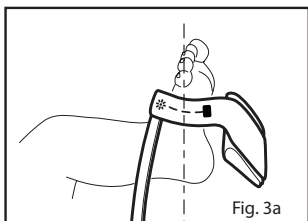

Fig. 3a
1. Refer to Fig. 3a. Direct the sensor cable toward the ankle (or wrist) so that it runs along the top of the foot (or hand). Apply the sensor around the foot (or hand) so that emitter and detector are aligned. Complete coverage of the detector window is needed to ensure accurate data.